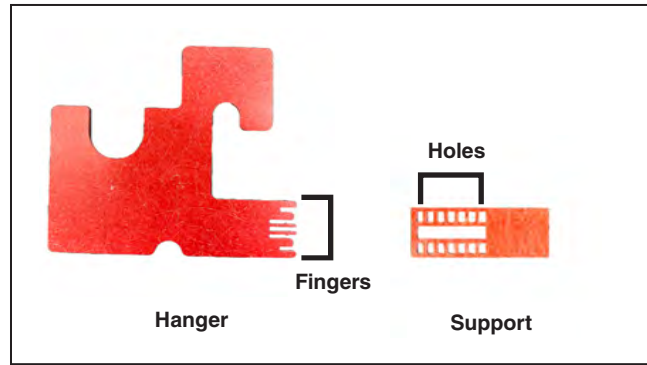

Figure 36. The hanger and support.
- STEP 1.** The hanger and support, when properly assembled, will create a 90-degree angle as it rests against the transformer. See Figure 36 and Figure 37. Hold the hanger on the upper low-voltage terminal. Then, hold the support until it touches the back of the transformer enclosure. Make note of which set of holes in the support the hanger aligns with to create a 90-degree angle.